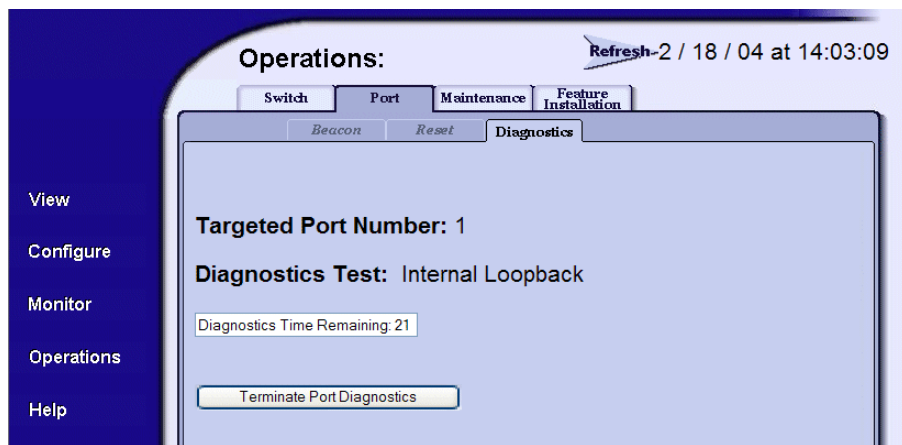

Figure 48: Diagnostics test in progress
3. Click **Start Port Diagnostics**. Port beaconing automatically initiates on the ports that you choose for loopback diagnostics (Figure 48). The test usually lasts 30 seconds.